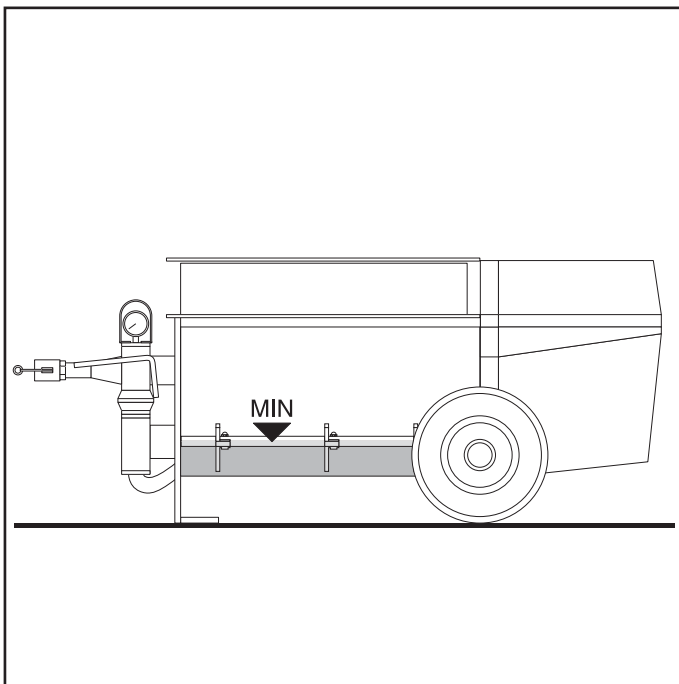

FIG.26
**The machine must always function with material or water in the hopper. If this is not the case, premature wear will occur on the pumping piston (FIG.26).**
**The machine must always function with material or water in the hopper(FIG.26). If this is not the case, premature wear will occur on the pumping piston.**